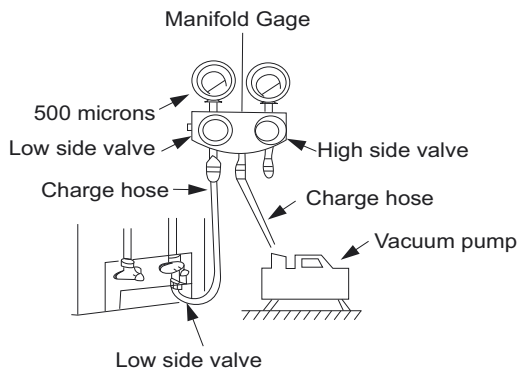

Fig. 34 — Manifold Gauge
3. Fully open the low side of manifold gage (see Fig. 34).